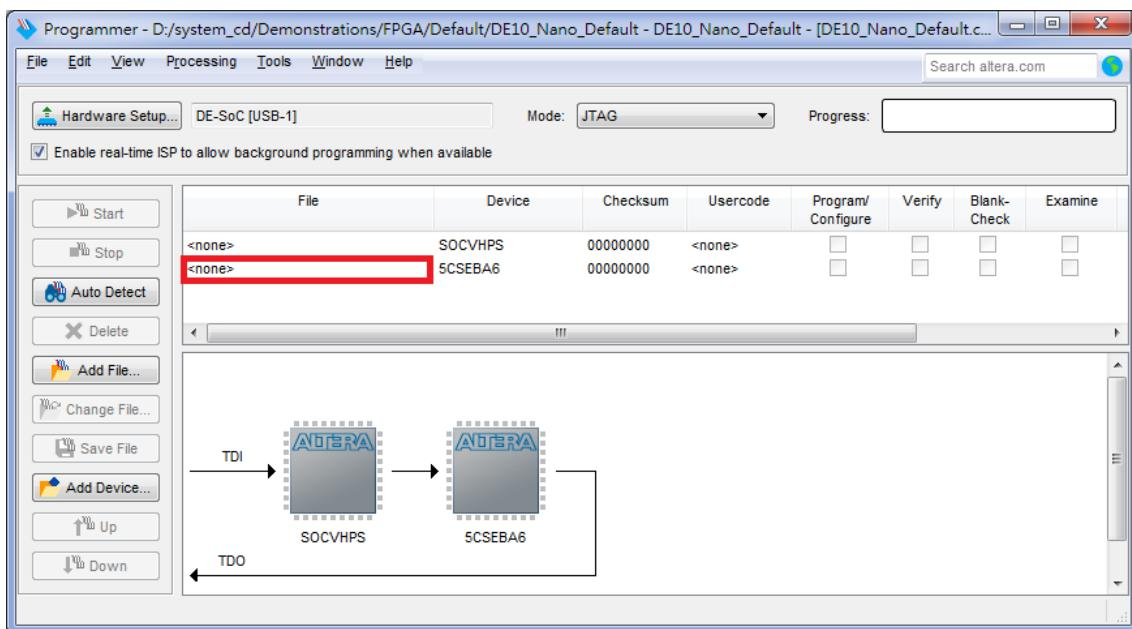

Figure 8-7 Two devices are detected in the Quartus II Programmer
3. Click **Auto Detect** and then select the correct device (5CSEBA6). Both FPGA device and HPS should be detected, as shown in Figure 8-7.
4. Double click the red rectangle region shown in Figure 8-7 and the **Select New Programming File** page will appear. Select the .jic file to be programmed.
3. Click **Auto Detect**, and then select correct device, both FPGA device and HPS will detected. (See **Figure 8-7**)
4. Double click the red rectangle region shown in **Figure 8-7**, and the **Select New Programming File** page will appear. Select the correct .jic file.